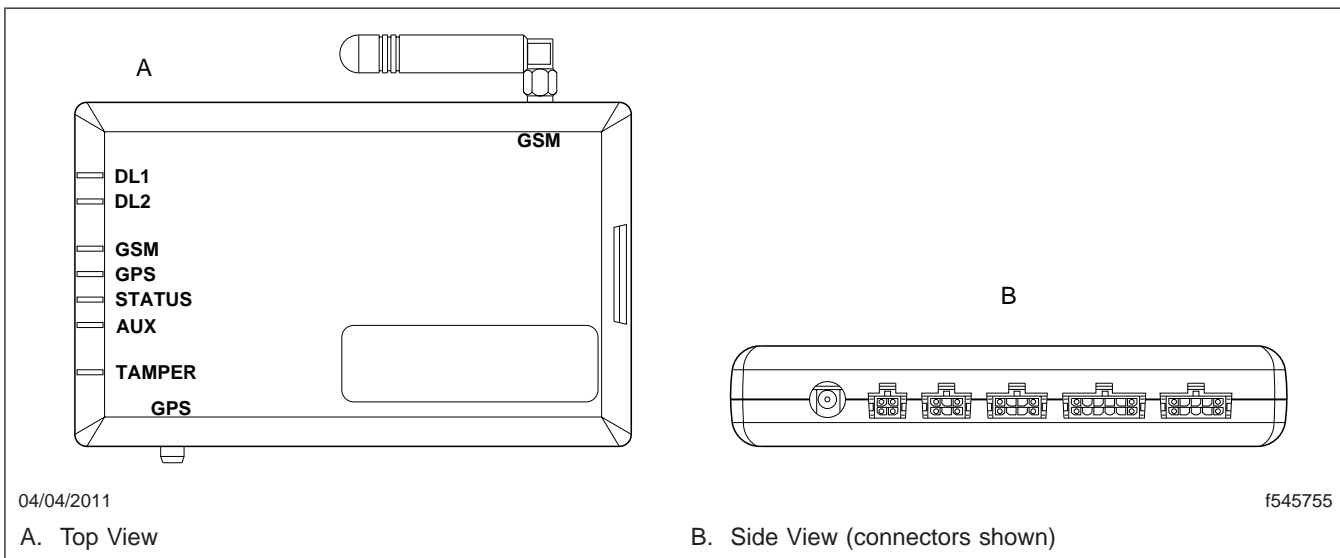

Fig. 11, Virtual Technician ECU
- 6.2 If no LEDs light up with the ignition ON, diagnose supplied power and ground to the unit. See Fig. 11 and Table 3. There are seven LEDs visible on the ECU module. Start the vehicle and drive to an open area, at least 40 feet (12 meters) away from any buildings. Park the vehicle and keep the ignition in the ON position. Apply the parking brake.